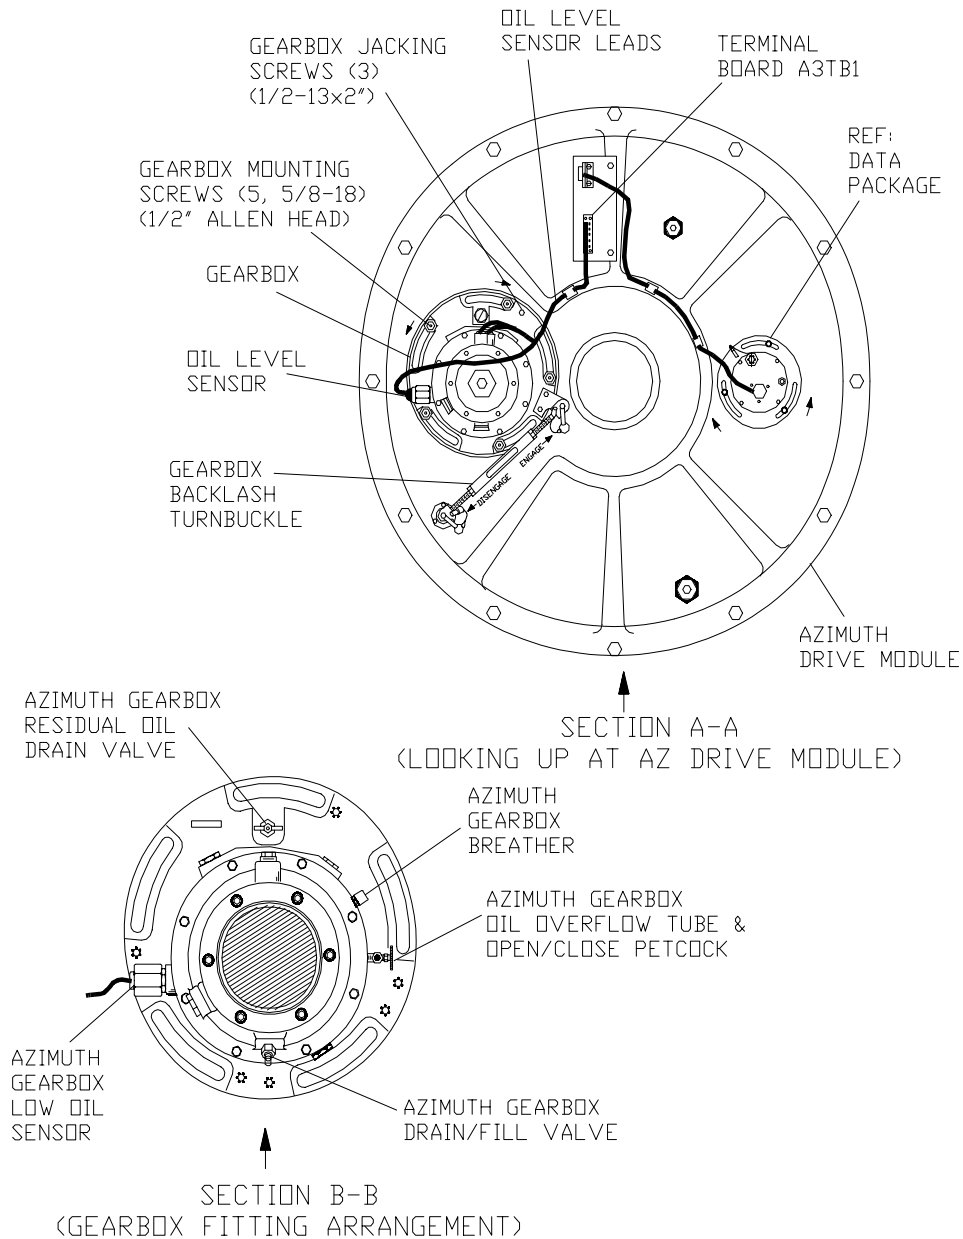

Figure 2. Azimuth Gearbox Petcock Valve Locations
- n. Using Figure 2, Section B-B as a guide, count the number of petcock valves and annotate the number on ATTACHMENT 2.